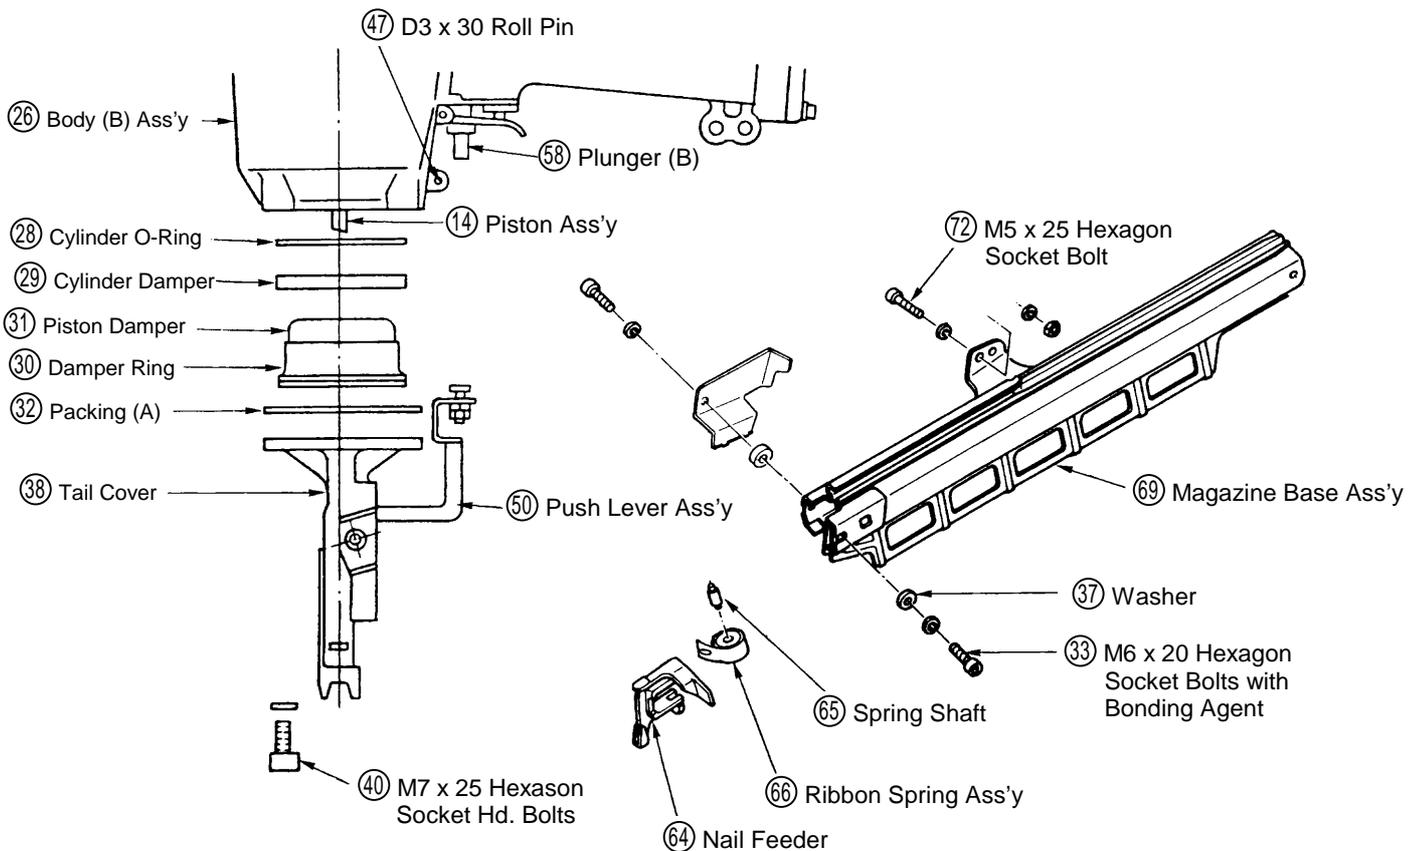
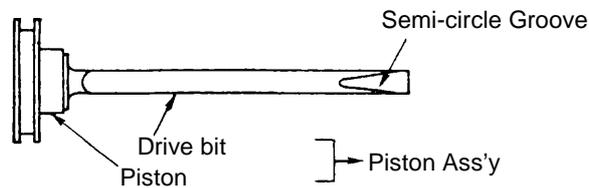

Fig. 7 Disassembly and Reassembly of the Piston Damper, Packing (A), etc.
Fig. 8 Semi-circle groove of piston ass'y
- Ensure that the Piston Ass'y (14) is positioned so its semicircular groove faces toward the Magazine side (see Fig. 8 below).
- Plunger (B) (58) may drop out during disassembly. Ensure it is properly assembled.
- Assemble the Body (B) Ass'y (26), Tail Cover (38), and Magazine Ass'y (81) in the following manner:
- 1) With the Push Lever Ass'y (50) properly mounted on the Tail Cover (38) as illustrated in Fig. 7, assemble the Tail Cover (38) to the Body (B) Ass'y (26) with the four M8 x 25 Hexagon Socket Hd. Bolts (40), and tighten them to rated torque (see para. 1-4).
- Ensure that the Piston Ass'y (14) is positioned so its semicircular groove faces toward the Magazine (see Fig. 8 above).